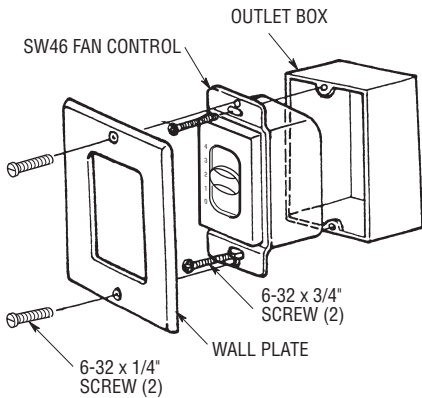

Figure 9
- 8. Position the wall plate (provided with control) onto the speed control. Using the two 6-32 x 1/4" screws, fasten the wall plate to the control (Figure 9).